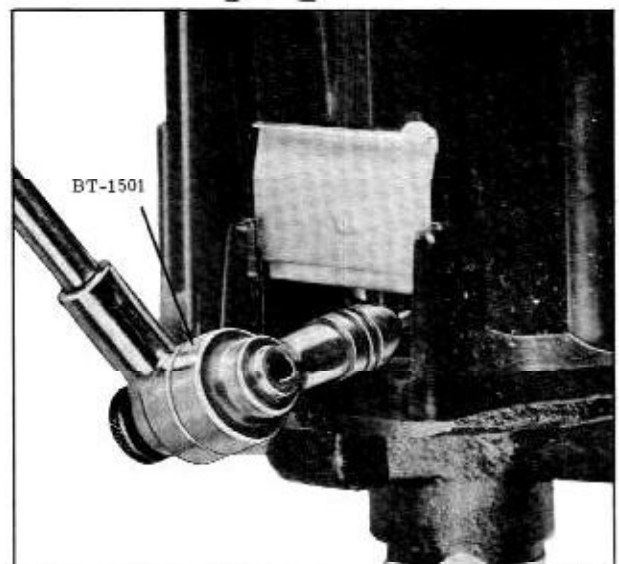

Fig. 9-2 Adjusting Dwell Angle
2. With engine running at idle speed, insert Dwell Adjusting Tool J-6296 or BT-1501 through distributor window into the head of the adjusting screw. (Fig. 9-2) Adjust dwell angle to 30°.